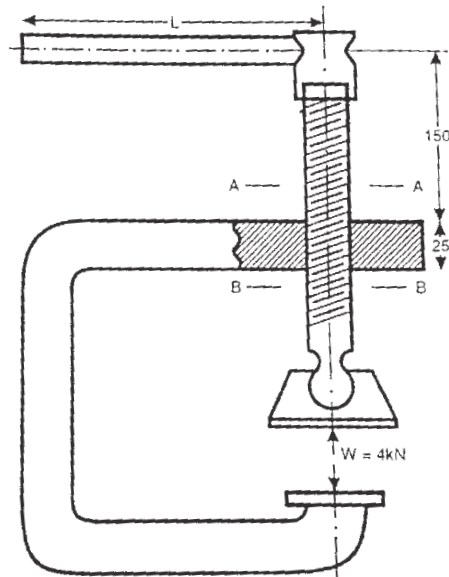

Figure 3. C-clamp
- Q4)** A C-clamp as shown in Figure 3 has trapezoidal threads of 12 mm outside diameter and 2 mm pitch. The coefficient of friction for screw thread is 0.12 and for collar is 0.25. the mean radius of collar is 6mm. If the force exerted by the operator at end of handle is 80N.